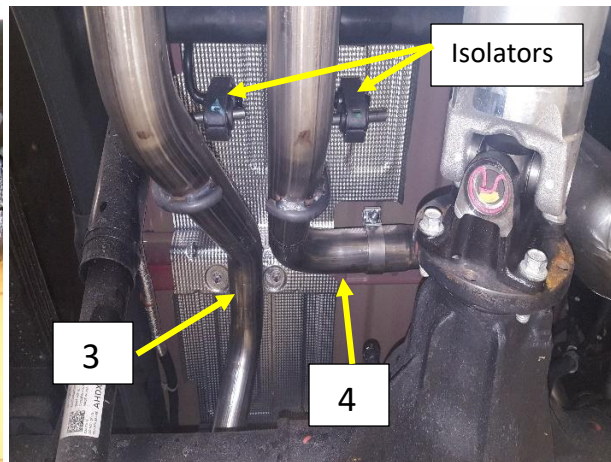

Figure.5
9. Install the right Tail pipe (3) and Left tail pipe A (4) into the muffler outlet. Install the hanger rod into the isolator over the muffler and the Right rear tail pipe hanger rod into the isolator just past the axle Fig.5